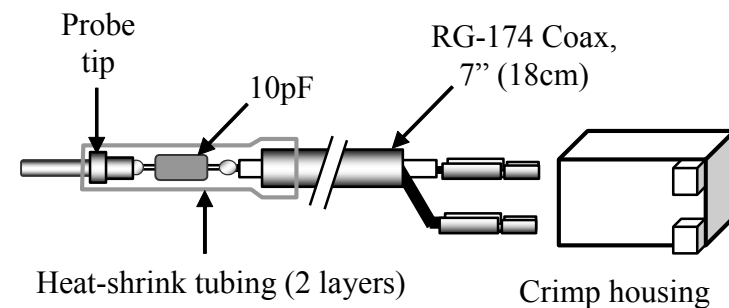

Figure 6-14
In the bag labeled **MISCELLANEOUS** you'll find the components for the frequency counter probe (Figure 6-14). These components include a 10 pF axial-lead capacitor, two crimp pins, a 2-pin housing, and a 1-pin male connector (probe tip).
- Insert the pins into the crimp housing as shown in Figure 6-14. They should snap into place. Each crimp pin has a small tab on the back that latches into a hole in the housing.